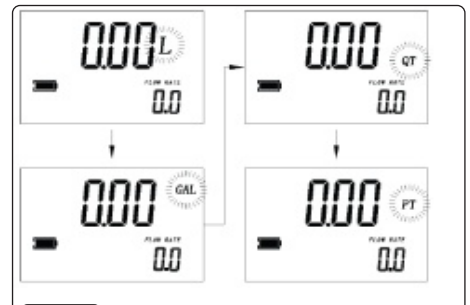

fig.9
- 5.4.6. To change Units (fig.9)
- 5.6.3. Press and hold MOVE key until all digits illuminate and display shows 'Cal' (fig.9).